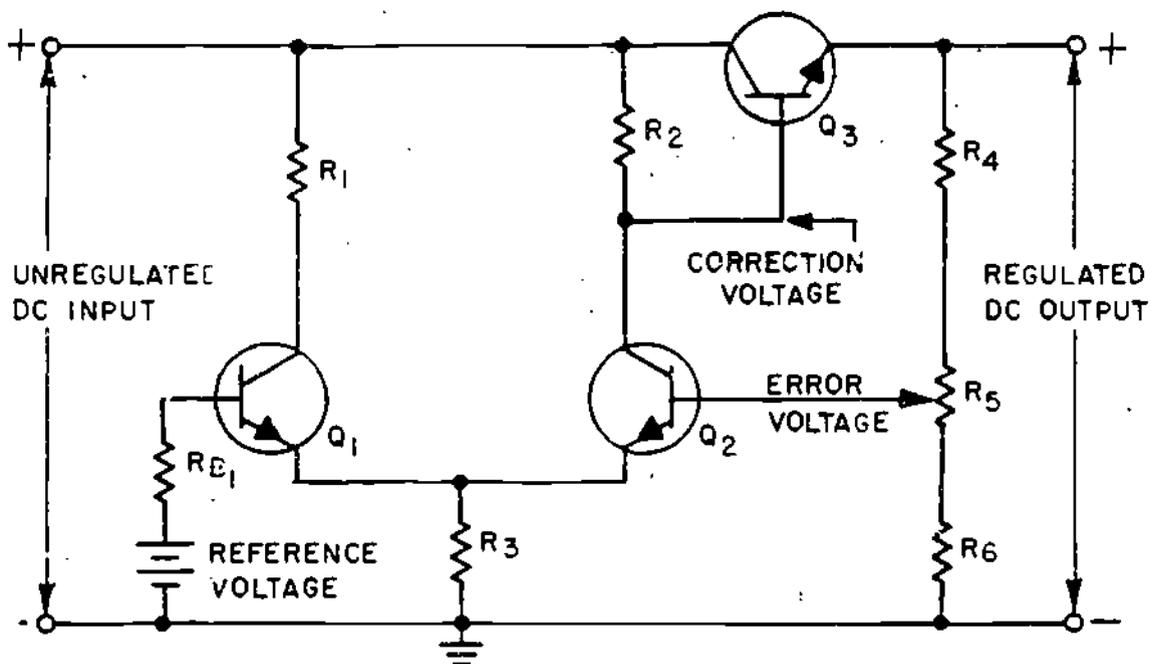

FIGURE 22
30. You now understand how a shunt detector works. Refer to Figure 22 and notice that a series regulator, Q_3 , and two additional resistors have been added to the circuitry. These components complete a regulator circuit which uses the output of the voltage comparator.
R5 as a negative error signal. This error signal (less positive voltage) is felt at the base of Q2, causing an increase in the voltage on the collector of Q2 (collector out-of-phase with base). When this more positive voltage is applied to the base of Q3, its forward bias is increased, thereby decreasing the resistance of the Q3. This results in a smaller voltage drop across the transistor, and the output voltage of the regulator returns to normal. Remember that these changes take place in microseconds. In the event the output voltage increases, the error and correction signal polarities would be reversed. The purpose of the voltage comparator in this circuit (Figure 22) is to provide a high degree of sensitivity to signal change, thereby eliminating changes, or drift, in the output voltage.